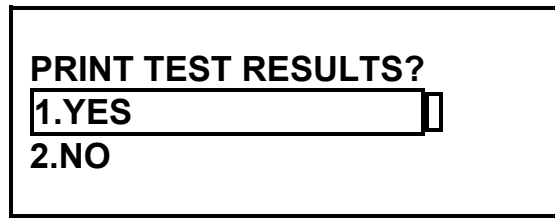

Figure 25.0 Print Test Results Menu
- c. Action Options:** Press any key or push down the Control Knob to go to the “Print Test Results Menu” (Figure 25.0).
- b. **Origin:** This menu is displayed after the operator selects 1 (“YES”) from the “Print Test Results Menu” (Figure 25.0).
- b. **Origin:** After the operator selects 1 (“YES”) or the operator selects 2 (“NO”) from the “Print Test Results Menu” (Figure 25.0).